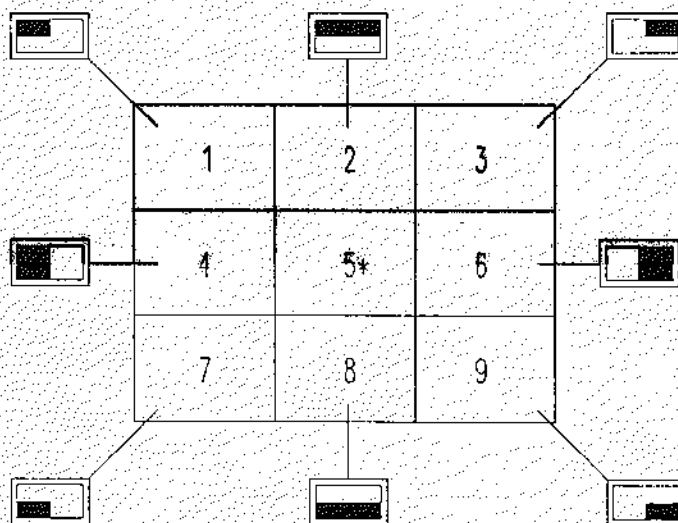

FIGURE B-1.
- STEP 1. Divide the white field pattern into 9 zones. Refer to Figure B-1. Note the area selection keys and the affected zone.
- STEP 5. GREEN ONLY! Measure and record the readings of each zone indicated in Figure B-1.
- STEP 6. Set zone 5 (Figure B-1) to the lowest reading (recorded above), with the **CONT** button.